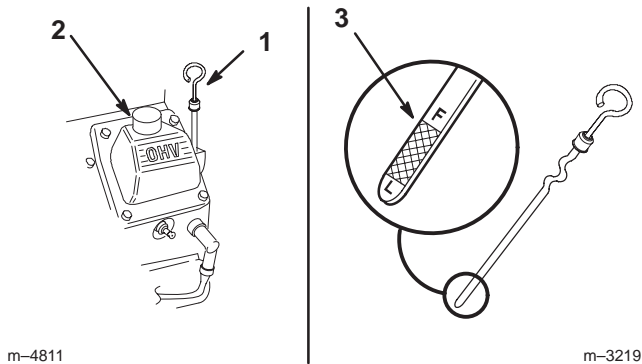

Figure 36
2. Clean around the oil dipstick (Fig. 36) so dirt cannot fall into the filler hole and damage the engine.
3. Pull the oil dipstick and wipe the metal end clean (Fig. 36).
4. Slide the oil dipstick fully into the filler tube. Pull the dipstick out and look at the metal end (Fig. 36). If oil level is low, slowly pour only enough oil into the filler tube to raise the level to the full mark.
5. Slowly pour approximately 80% of the specified oil into the filler cap (Fig. 36). Refer to Servicing the Engine Oil, page 30.